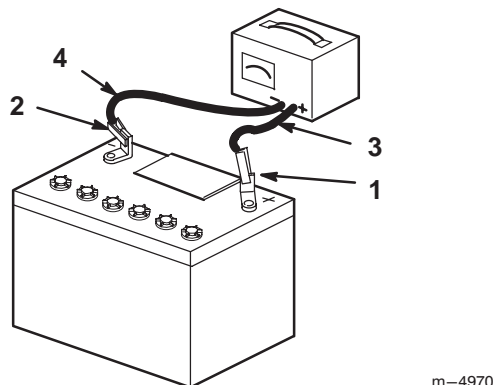

Figure 3
8. When the battery is fully charged, unplug the charger from the electrical outlet, then disconnect the charger leads from the battery posts (Fig. 3).